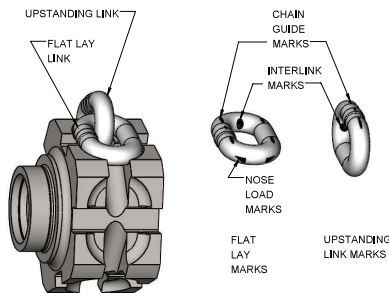

Figure 17. Chain Wear Areas
3. Slack the portion of the chain that normally passes over the lift-wheel (sprocket) or idler sprocket on multi-reeved hoist. Examine the chain links for wear (see figure 17). If the wire diameter anywhere on the link measures less than 90% of the nominal wire diameter, replace the chain.